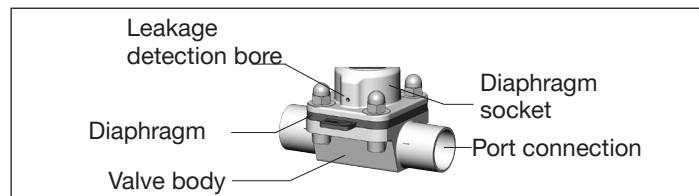

Fig. 6: Leakage detection bore
- Periodic control of the leakage detection bore (see “Fig. 6”).